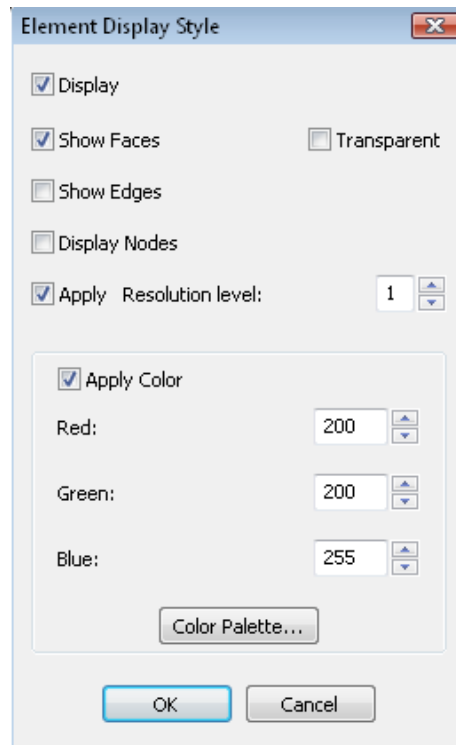

Figure A.34 Element Display Style Window.
- Again right-click on the mesh while holding down the *shift-key* and select: **Selected Elements** → **Display Style** to view a pop-up window shown in Figure A.34.